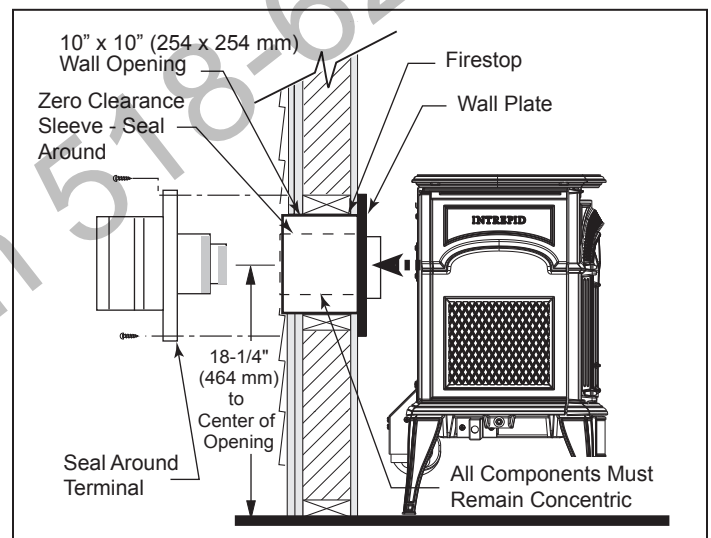

Figure 20 - Intrepid minimum horizontal rear vent installation.
2. Measure the wall thickness and cut the zero clearance sleeve sections to proper length (MAXIMUM 12"). Assemble the sleeve with the #8 sheet metal screws supplied. Attach the firestop plate to the sleeve end with the holes, Figure 20. **NOTE:** The zero clearance sleeve is required in combustible walls only.
- Install the vent terminal, Figure 20. Guide the inner and outer vent termination collars into the adjacent pipes. Double check that the vent pipes overlap the collars by 2". Fasten the termination to the outside wall with the screws provided, and caulk the joint with weatherproof sealant.